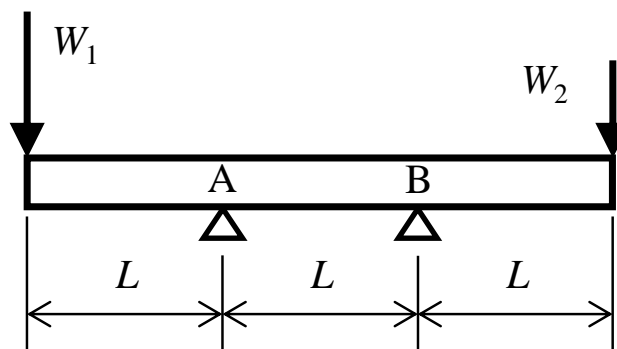

Fig. 5
4. A $3L$ -long beam is supported at two points A and B at a distance L from both ends of the beam, as shown in Fig. 5. A concentrated load W_1 is applied at the left end of the beam and a concentrated load W_2 is applied at the right end, where $2W_2 > W_1 > W_2$. Answer the following questions. Neglect the weight of the beam. Describe also the processes of deriving the answers.